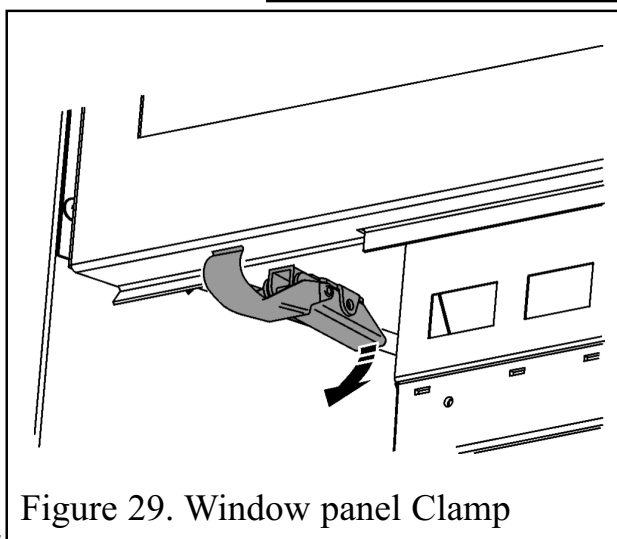

Figure 29. Window panel Clamp
1. The window panel is secured at the bottom with two clamps. To release the clamps, hold at the rear and pull down (See figure 29).